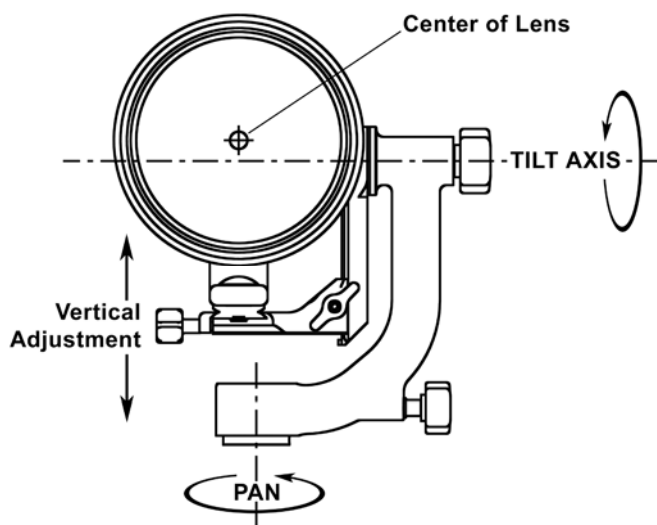

Figure 2
The moving parts of the Head perform three functions, allowing you to 1) sweep the lens horizontally (pan), 2) tilt the lens vertically, and 3) adjust the height of the platform upon which the lens is mounted (Fig. 2) for balance adjustment.
- **Loosen the platform wing knob and adjust the vertical position of the platform (with the lens/camera combo attached) so that the center of the lens is slightly above the tilt axis of the Head (Fig. 2).**